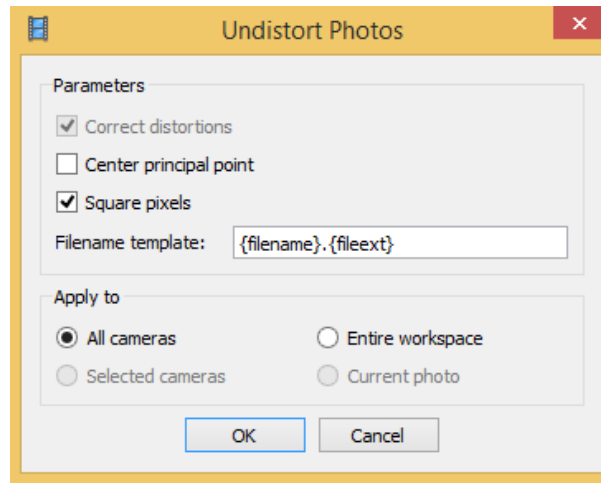

Figure 8: The options window to undistort the images in Agisoft PhotoScan.
5. click on Tools → Export → Undistort Photos: figure 8 will appear
6. be sure that the box of “Center principal” point is unchecked such as the figure 8 shows